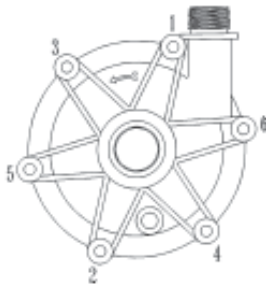

Figure 5
11. Reassemble the wet end by placing the impeller (items 18 and 19) onto the ceramic shaft in the column housing adapter (item 15). Install the housing o-ring (item 16), and lubricate with a compatible lubricant. Align the marks made on the housing (item 21) and the column housing adapter (item 15) during disassembly. Install the impeller housing (item 21) onto the column housing adapter taking care not to dislodge the o-ring. Align the bolt holes and install the six mounting screws (item 22). Use a Teflon thread lubricant on the PVDF screws. Following the pattern in Figure 5, carefully tighten using a screwdriver. Do not over-tighten the screws (recommended maximum torque is 25 in-lbs.) Reach into the suction and spin the impeller with your finger to verify it is not rubbing or binding.